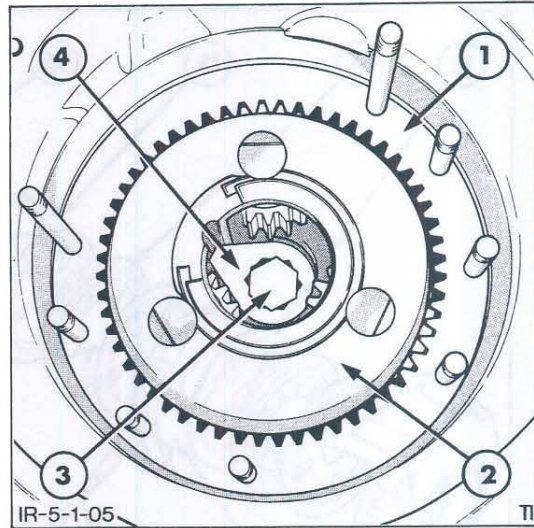

Figure 5
- Remove the axle shaft bolt lock, axle shaft retaining bolt, axle shaft retaining washer, and selective spacer. The planet gears may have to be rotated to permit removal of the bolt lock, Figure 5.